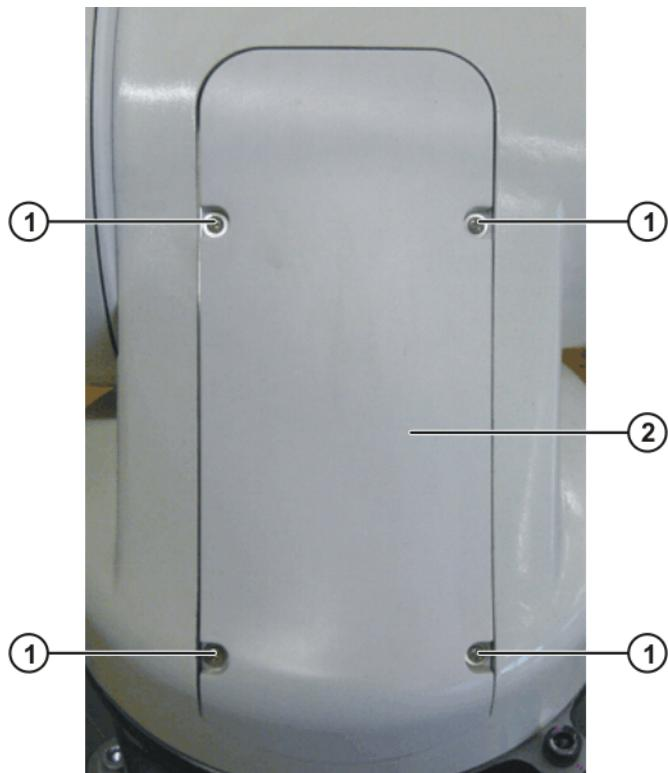

Fig. 10-2: Rotating column cover
2. Remove 4 screws (>>> Fig. 10-2) from the cover.
10. Mount the cover (>>> Fig. 10-2).